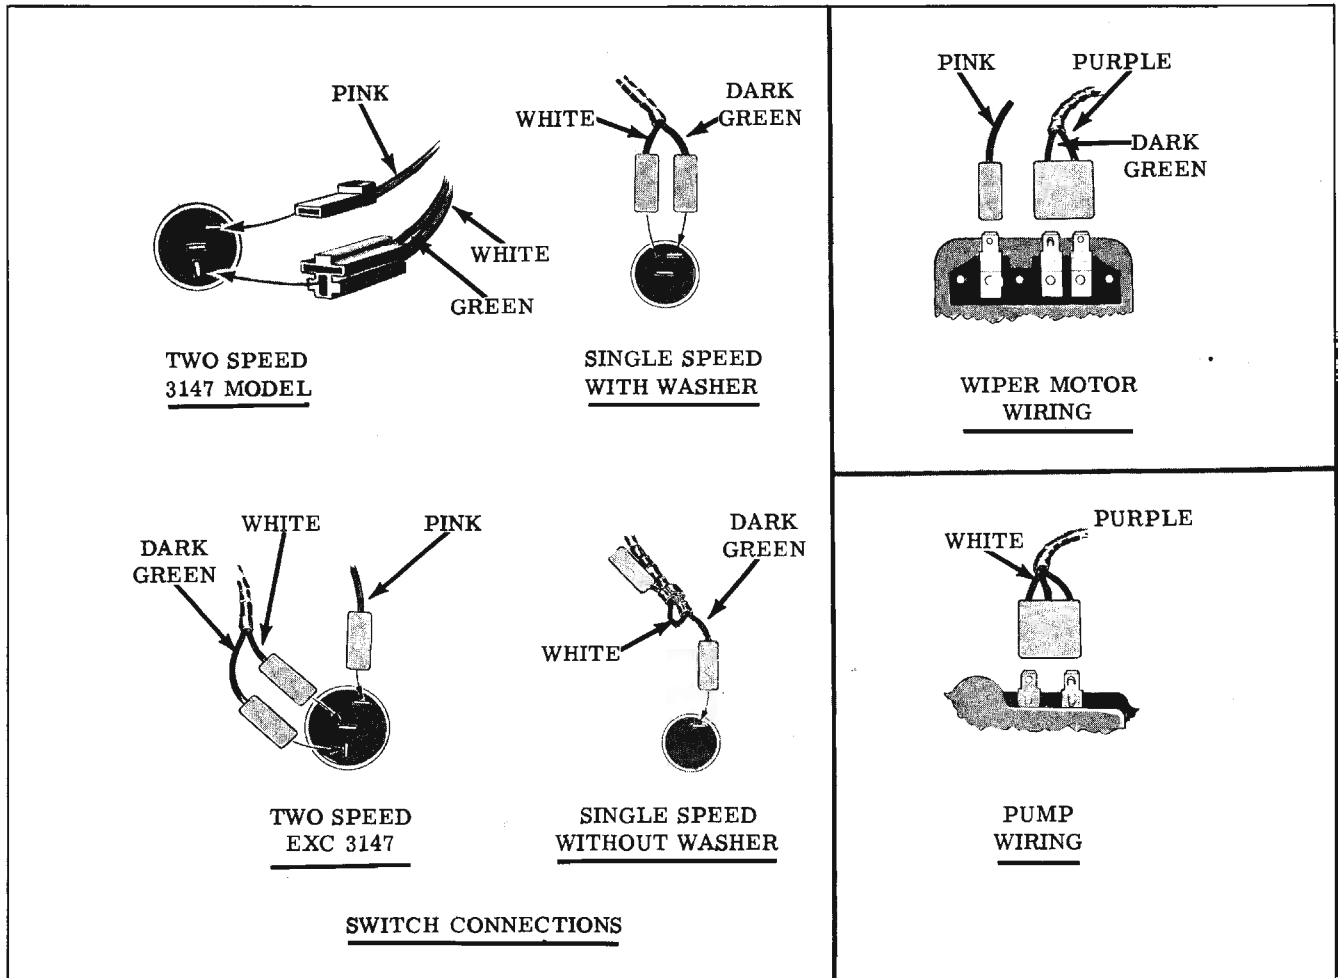

Fig. 14-162 Wiring Connections
2. Disconnect harness connector from motor terminals. (Fig. 14-162)